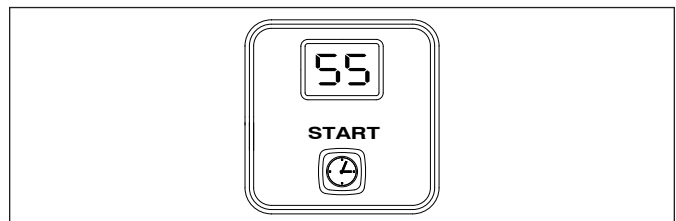

Figure 9. Time Setting Fd Mode (55 Seconds)
3. To make a program change, press and hold the Start button to scroll through settings - release the Start button at the desired setting (Figure 9).